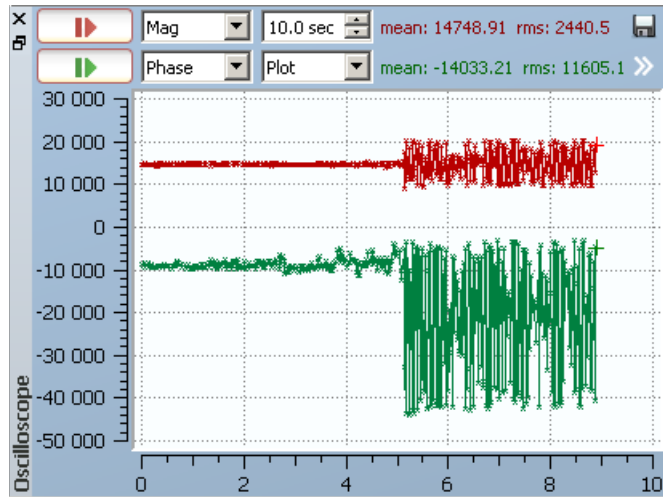

Figure 3.6.3.2 Generation in signals Mag and Phase in the oscilloscope.
- When monitoring the signal in the oscilloscope, increase the Gain until parasitic oscillations occur (fig. 3.6.3.2).